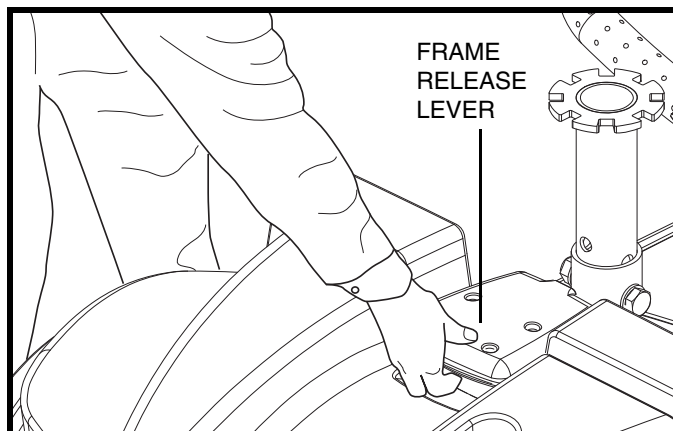

Figure 20. Frame Release Lever
3. Grasp and lift up on the frame release lever. **See figure 20.**